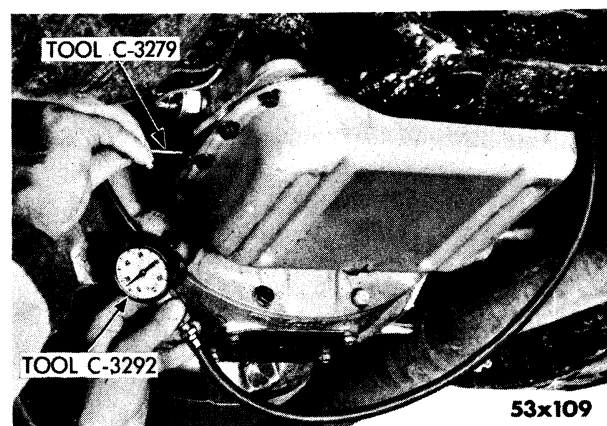

Fig. 38—Setting Throttle Pressure
- (3) Shift manual control lever on left side of transmission to Drive range. When the manual control lever is moved into Drive range, (one detent toward the front) engine speed will drop approximately 50 rpm. Check throttle pressure.
- (4) Remove the throttle valve adjusting screw plug ($\frac{3}{8}$ inch pipe). (About one quart of transmission fluid will drain out.)
- (5) Insert adjusting screw wrench, Tool C-3279A (or Tool C-3279), and adjust throttle pressure to 14 psi. (Fig. 38.) Turn screw **OUT** to increase pressure and **IN** to decrease pressure. Open and release the throttle several times to check for proper setting (throttle pressure should return to 14 psi).
- (6) Replace the throttle valve adjusting screw plug and tighten to 25 foot-pounds torque.
- (7) With the accelerator pedal fully released, and engine at 475 to 500 rpm, the pressure should read 14 psi.
- (8) Very slowly move the accelerator pedal or lever from underneath. With throttle pressure and linkage properly adjusted, the throttle pressure will rise immediately with an increase in engine rpm.